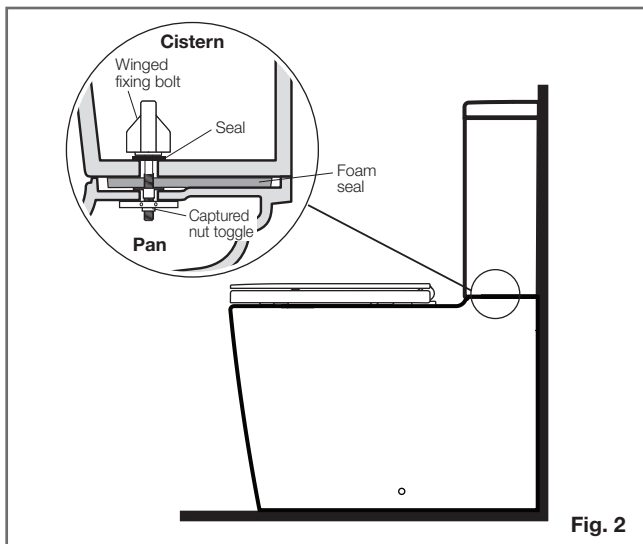

Fig. 2
- 4- Insert the winged fixing bolts through the cistern fixing holes into the threaded fixing holes located in the pan. Gradually tighten the left and right hand fixing bolts by hand to firmly secure the cistern to pan, as detailed in Fig. 2.